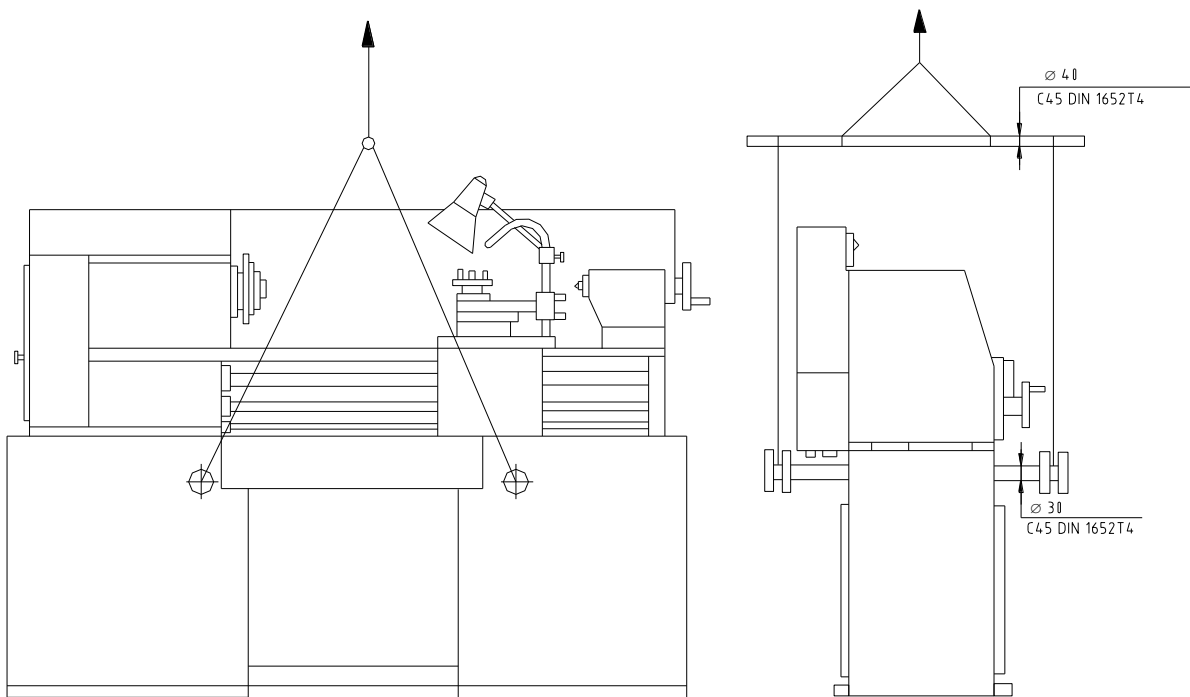
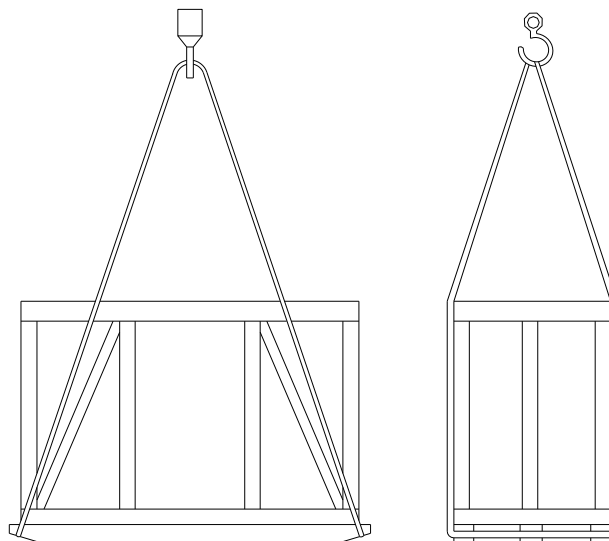

Fig. 3-1. Lifting and displacement machine on wooden pallet
Fig. 3-2. Lifting and displacement machine in wooden case
The machine is shipped from the factory to be transported to the end user packed on wooden pallet or into wooden case. (see Fig. 3-1 and Fig. 3-2).
3.1.2 INSTRUCTIONS FOR LIFTING AND DISPLACEMENT MACHINE ON WOODEN PALLET (See Fig.3-1)